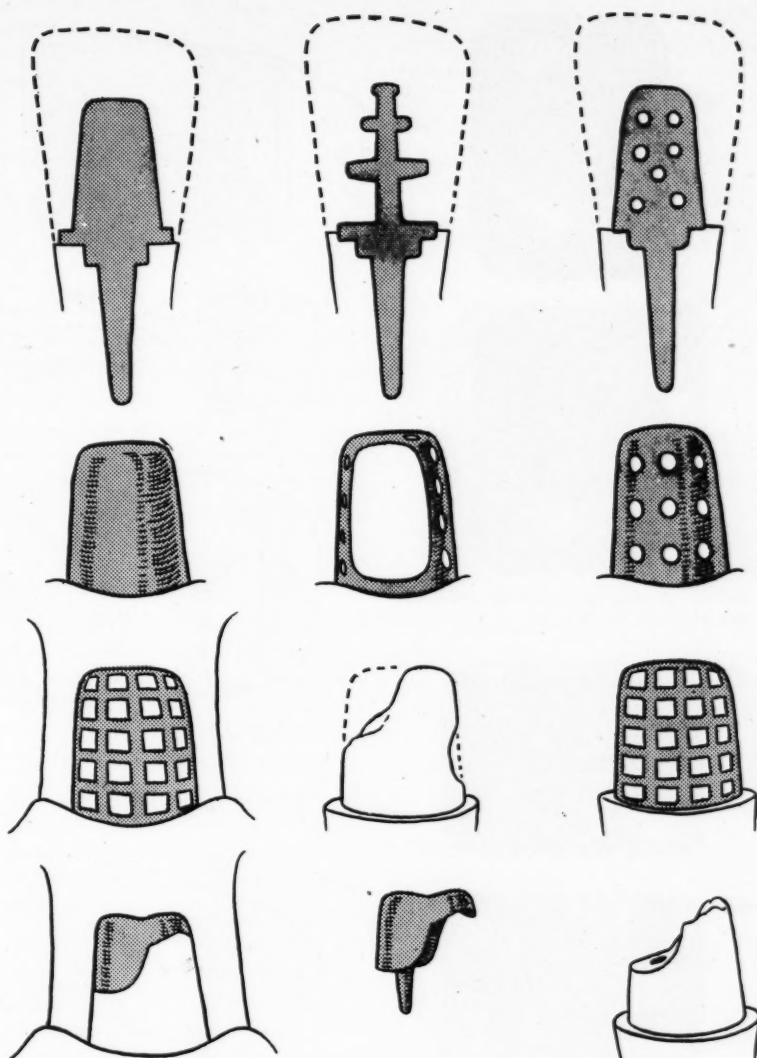

Fig. 3—Gold reinforcements for broken-down anterior teeth.
1. Accurate preparation of the tooth, and the use of thimbles, pins, or dowels where abutments are broken down or the preparation is weak (Figs. 3 and 4).